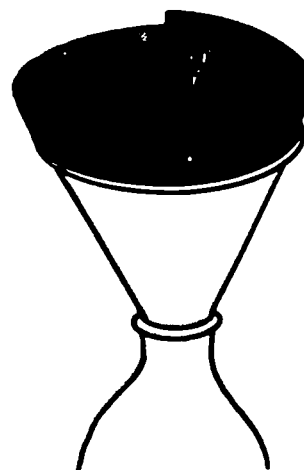

Fig. 49-6. Funnel Supported in Bottle
4. Place the funnel in an empty bottle. See Fig. 49-6.
3. Place the funnel in an empty bottle. See Fig. 49-6.